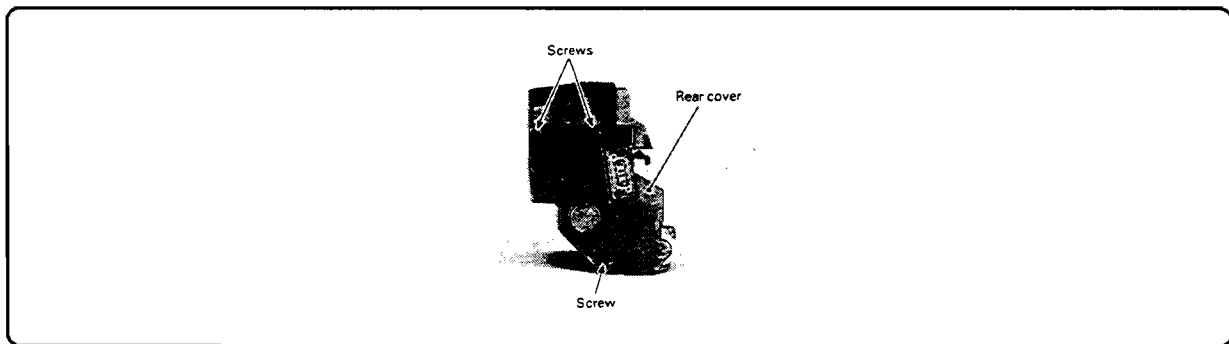

Figure 6-62. Developer Rear Cover Removal
6. Remove the three screws and detach the rear cover (Figure 6-62).